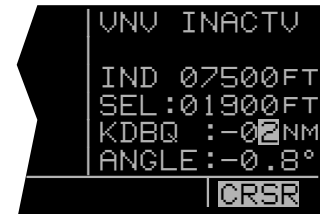

Figure 5-25
- Use the outer knob to move the cursor to the offset field adjacent to the active waypoint identifier. Entering an offset allows you to reach the desired altitude a specified distance before reaching the waypoint. In this example you desire to reach traffic pattern altitude two nautical miles prior to the airport, which allows sufficient time to slow down and prepare for the landing. Enter an offset of 2 nm (figure 5-25).